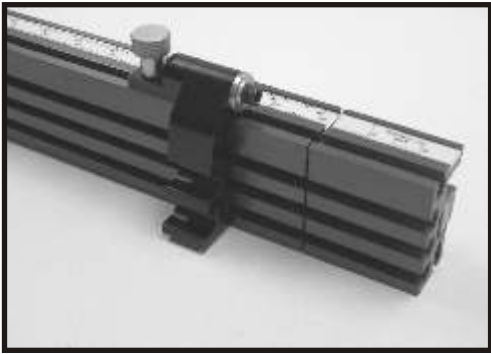

FIG. 5
5. The fence stop should look like this when properly mounted on the main fence. (Fig. 5).